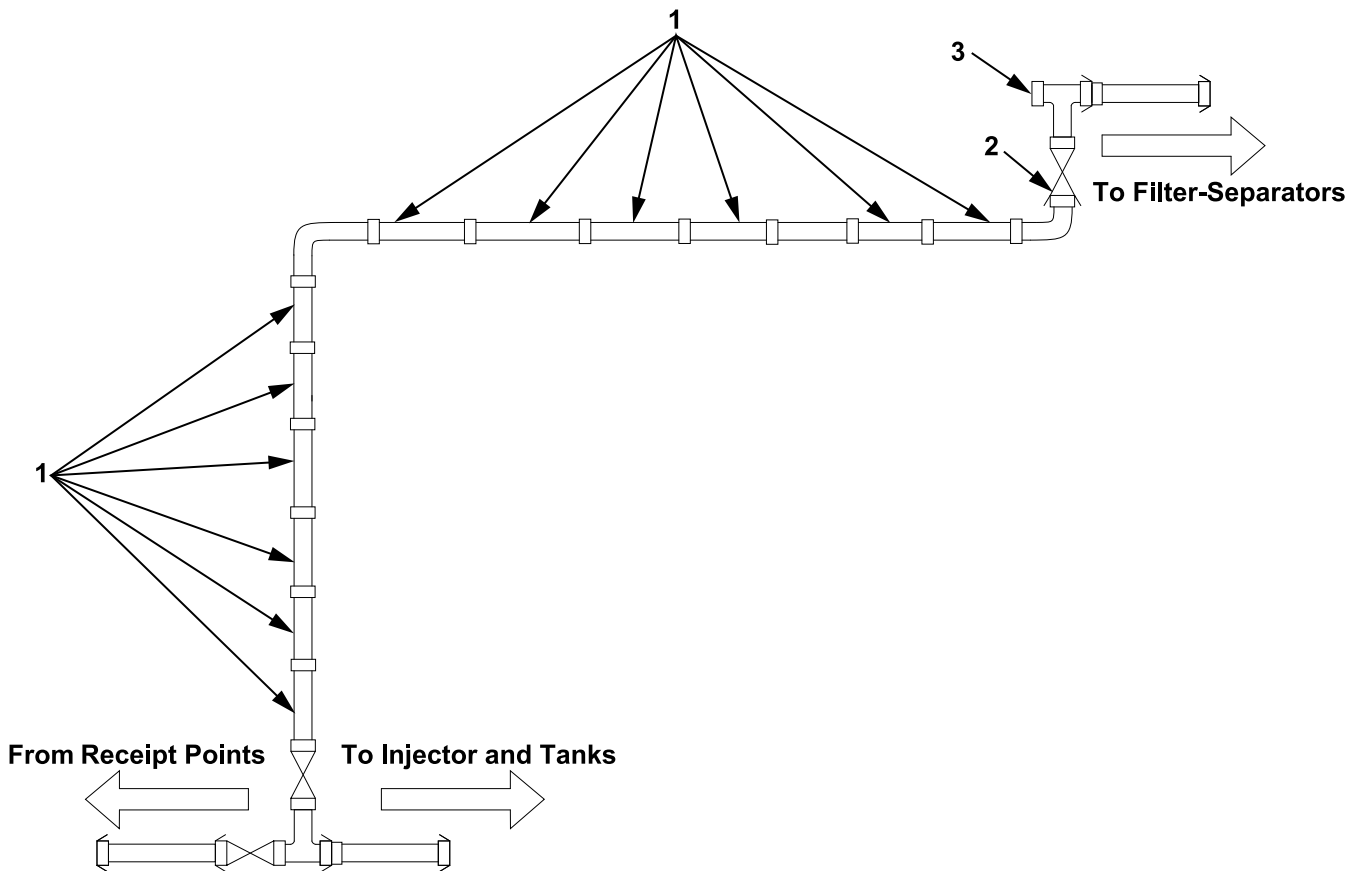

Figure 10. Installation of Recirculation Line.
2. Connect the gate valve (Figure 10, Item 2) to tee assembly (Figure 10, Item 3).
4. Connect the sections of 4 in. X 25 ft discharge hose (Figure 10, Item 1) to gate valve (Figure 10, Item 2).